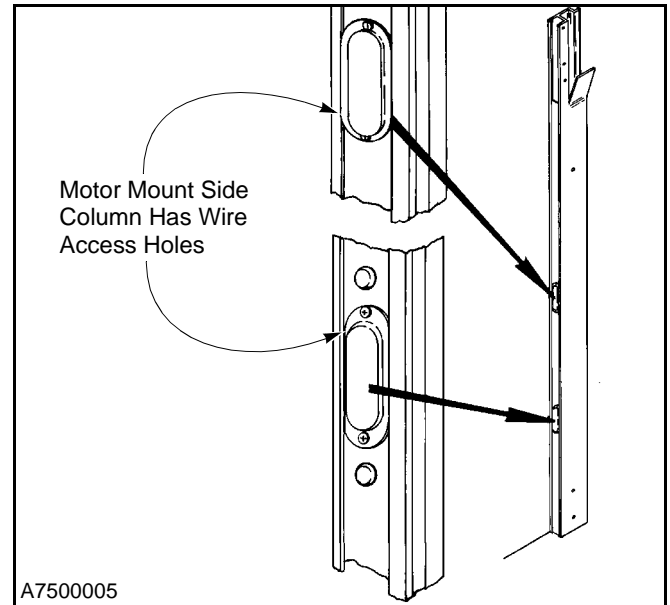

Figure 10
1. Remove the drive motor side column from the shipping crate. The drive motor side column is identified by the wire access holes along its outside edge. (See Figure 10.)